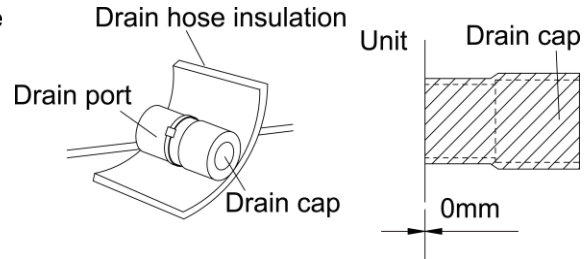

Figure 3-1-15
(10) The unused drain port also should be insulated properly. (Figure 3-1-15)